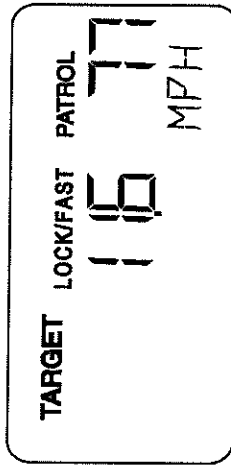

Fig. 25
4. The computed speed will be computed and shown in the patrol window. Fig. 25 is an example of a 1320-foot measurement zone, an 11.6-second measurement interval, and a 77 mph (124 kph) computed speed.